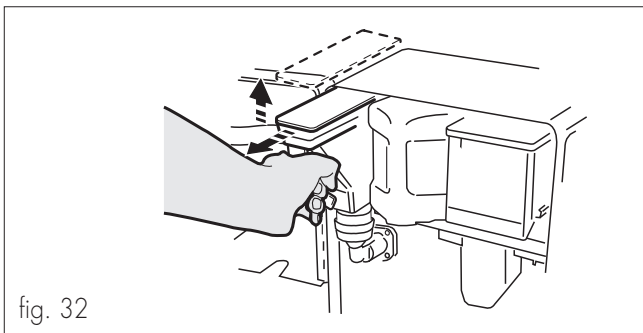

fig. 32
- Extract the container from its seat by slightly lifting it to make its extraction easier (fig. 32). The soluble powder container doesn't require special maintenance. Nevertheless, it should be cleaned at least on a monthly basis, making sure that it's perfectly dried when filled. The container may be separated from the back bushing by rotating the latter clockwise, allowing back pin and spring extraction. The front silicon bushing can be unfitted by removing the special fixing spring. Clean everything with a dry cloth or compressed air, then refit performing all operations in reverse order, making sure that the sealing ring of the back pin is perfectly intact.